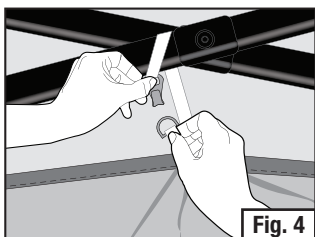

Fig. 4
3. Locate all hook & loop fasteners on edges of sidewall, then wrap around frame & frame posts to secure. (Fig. 4 & 5)